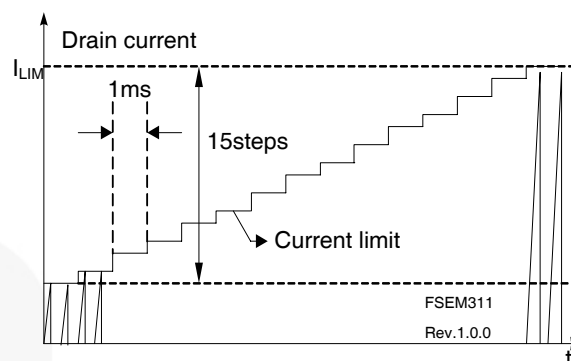

Figure 18. Pulse-Width-Modulation (PWM) Circuit
5. Soft Start: The FPS has an internal soft start circuit that slowly increases the feedback voltage together with the Sense FET current after it starts up. The typical soft start time is 15msec, as shown in Figure 18, where progressive increments of the Sense FET current are allowed during the start-up phase. The pulse width to the power switching device is progressively increased to establish the correct working conditions for transformers, inductors, and capacitors. The voltage on the output capacitors is progressively increased with the intention of smoothly establishing the required output voltage. It also helps to prevent transformer saturation and reduce the stress on the secondary diode.